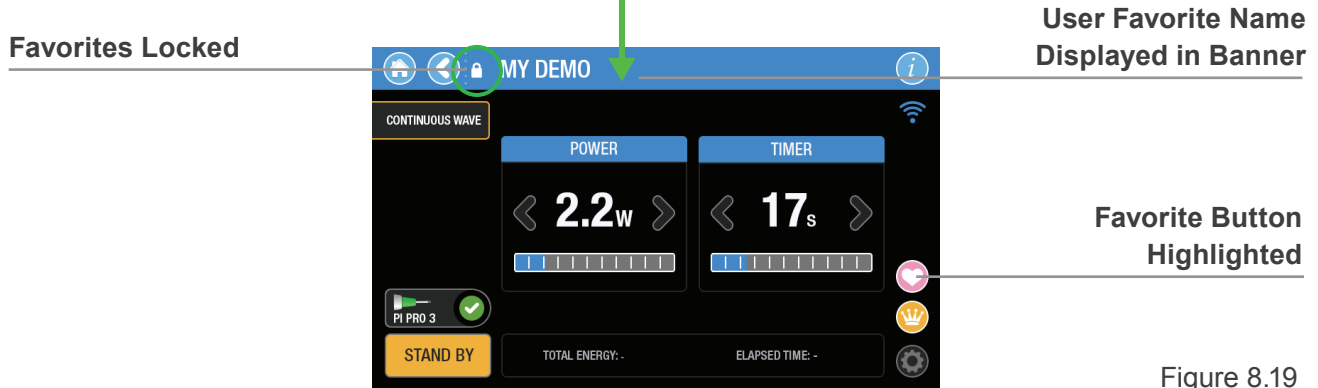

Figure 8.19
- Press Save. The settings are now stored in Favorites for use when needed. The program returns to the main treatment screen with the new saved Favorite name displayed on the banner and the Favorites button is highlighted (Figure 8.19)